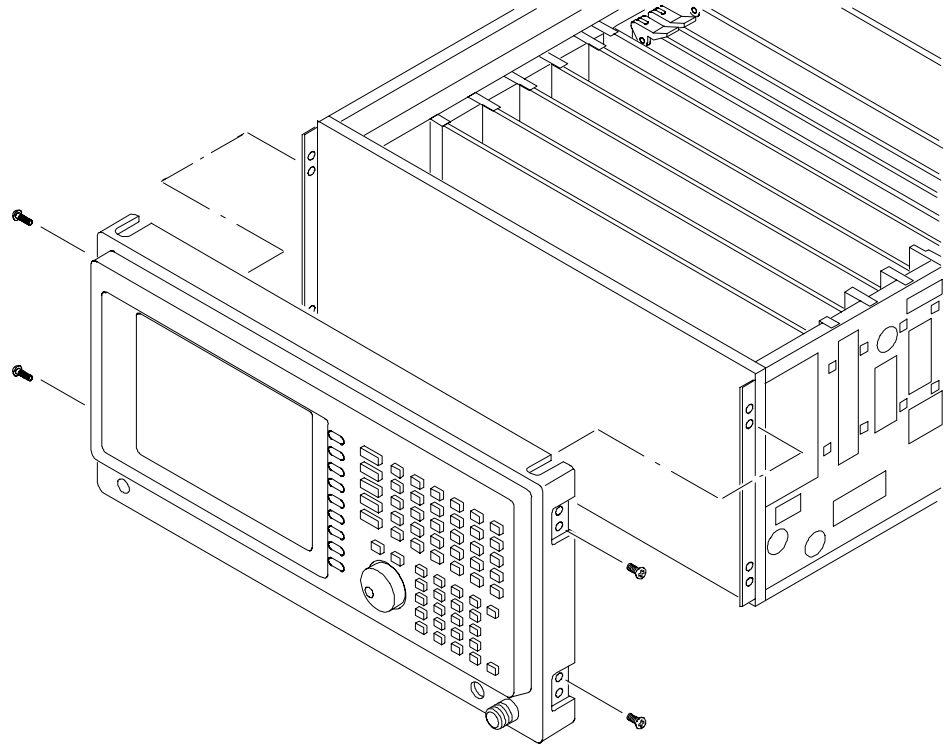

Figure 6-26: Front panel assembly removal
3. *Remove the front panel assembly:* See Figure 6-26.